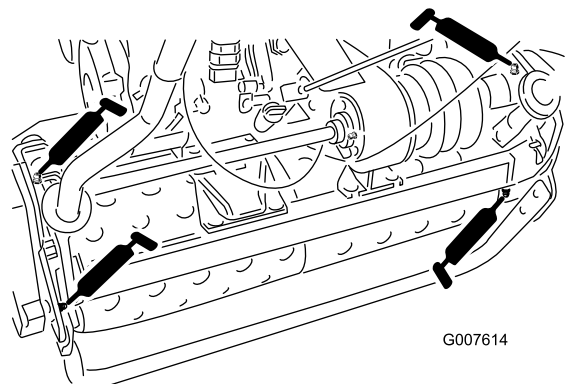

Figure 17
- 2 on the drum axles (Figure 17)
- 3 on the differential (Figure 17)